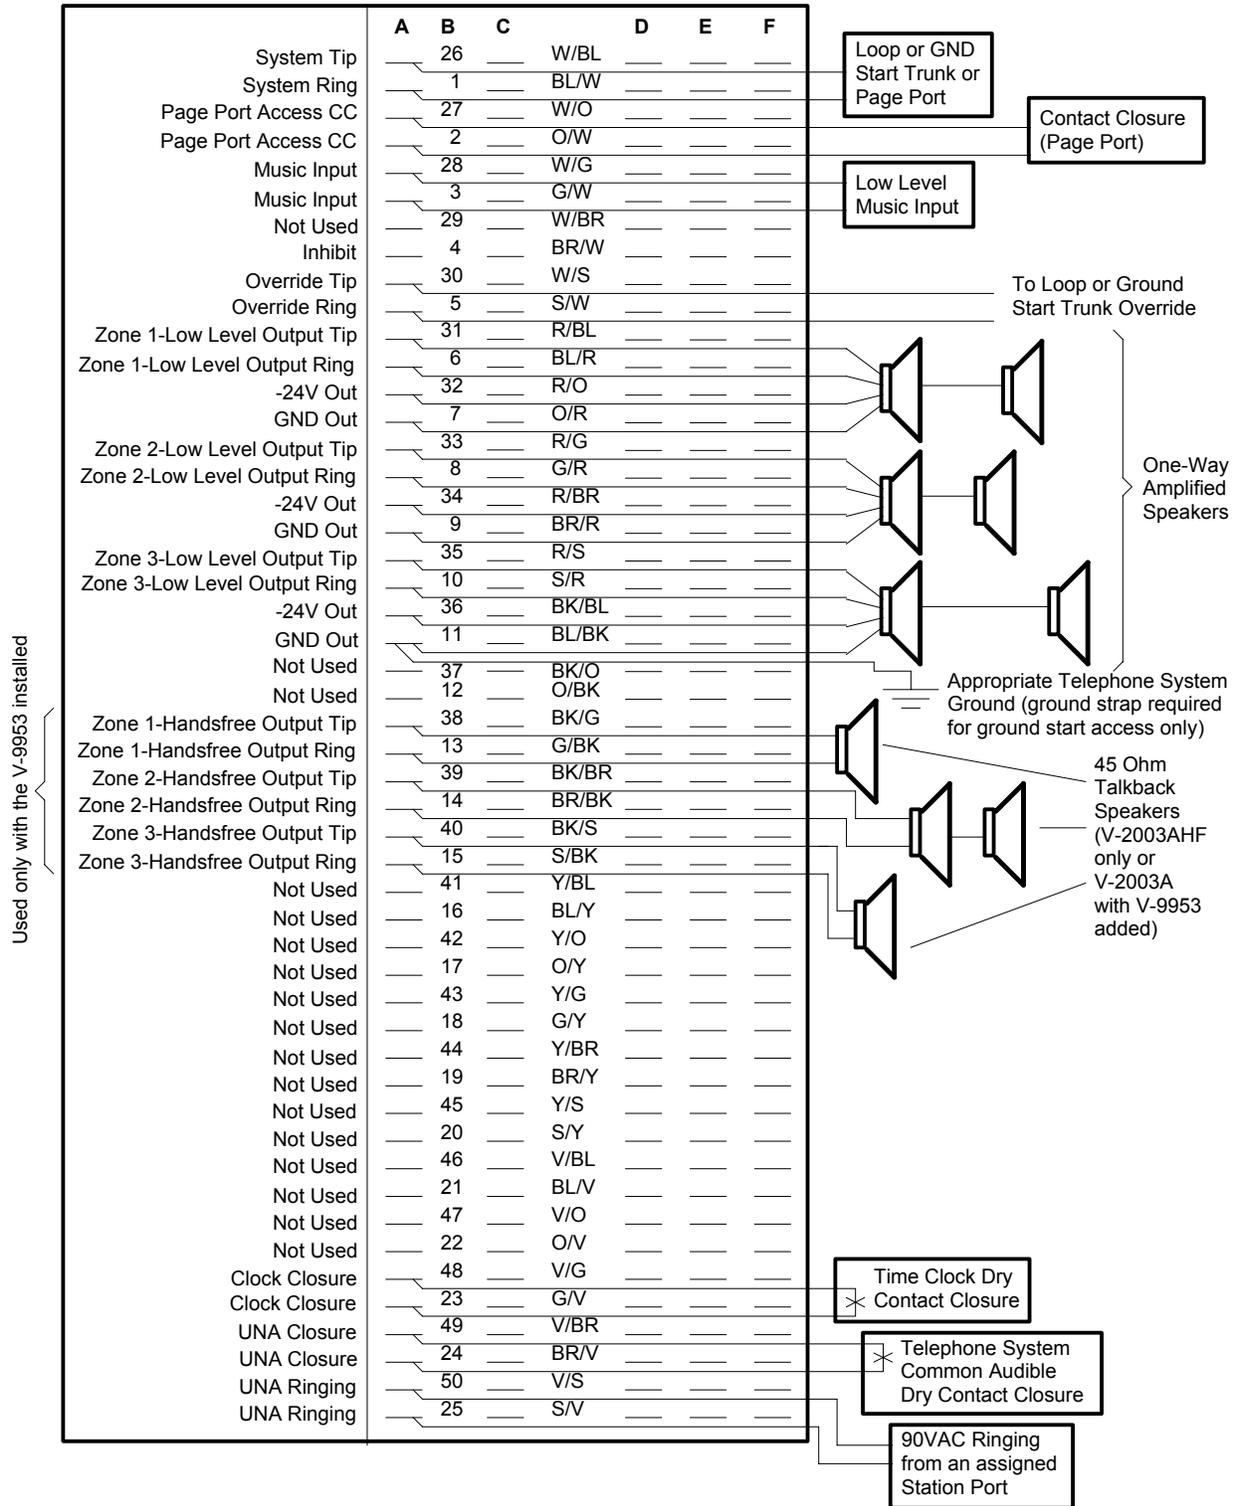

FIGURE 3 - 66 BLOCK CONNECTIONS FOR THE V-9953
- ___ 8. Using twisted pair telephone wire, connect the Talkback Speakers to the appropriate output on the V-2003A connection block (Figure 3). Zone 1 speakers connect to the BK/G pair, Zone 2 speakers connect to the BK/BR pair, and Zone 3 speakers connect to the BK/S pair. No more than two (2) 45 Ohm speakers should be connected to any Talkback zone. Do not use 8 Ohm speakers.